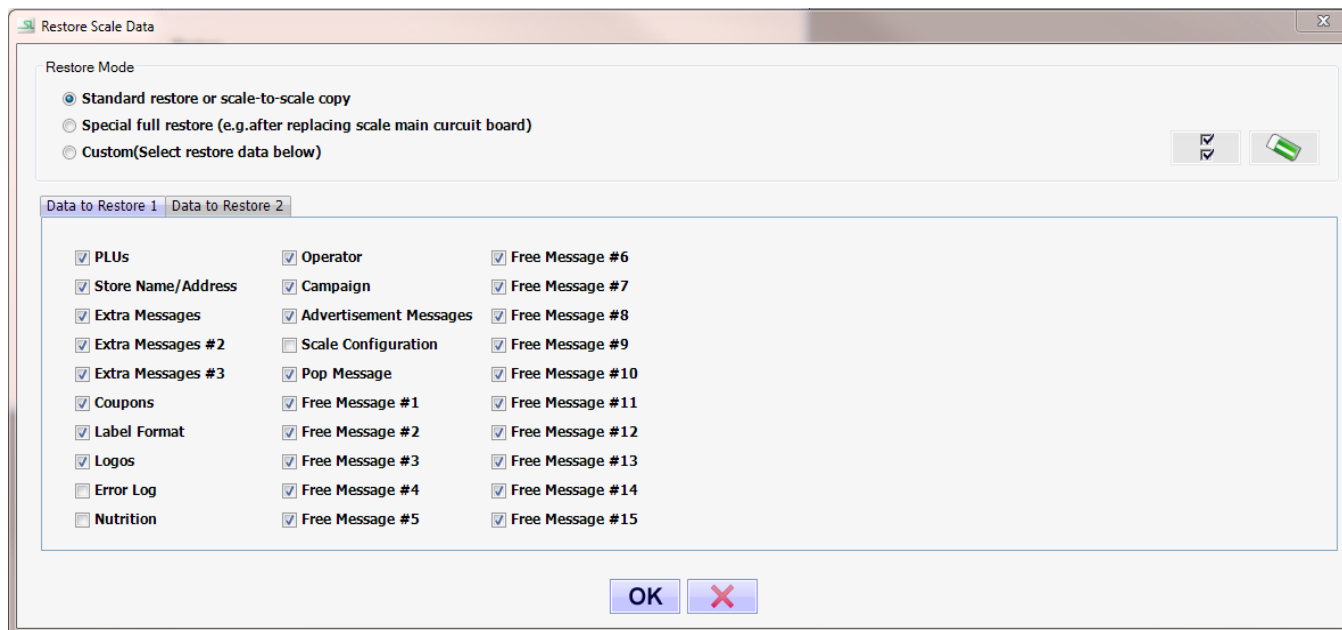

Figure 50-1
6. Select one of the Restore Mode options to specify the type of restore to perform. See Figure 50-1.